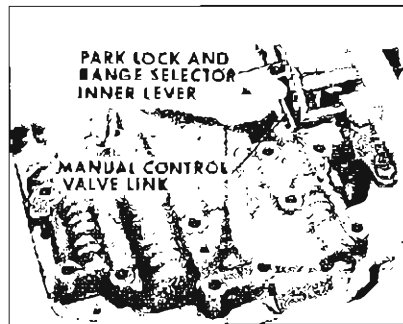

Figure 5-337
4. Install manual control valve link into park, lock and range selector inner lever. See Figure 5-337.